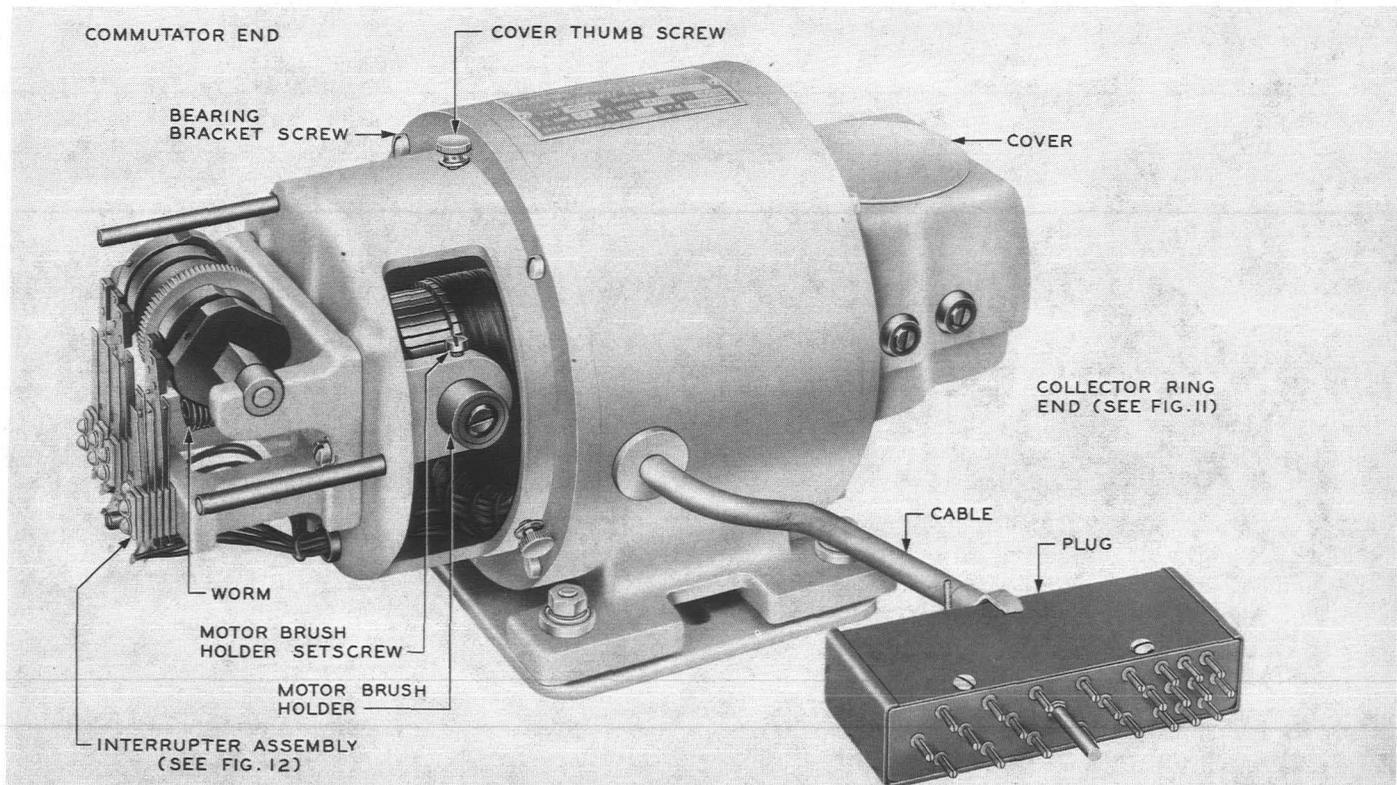
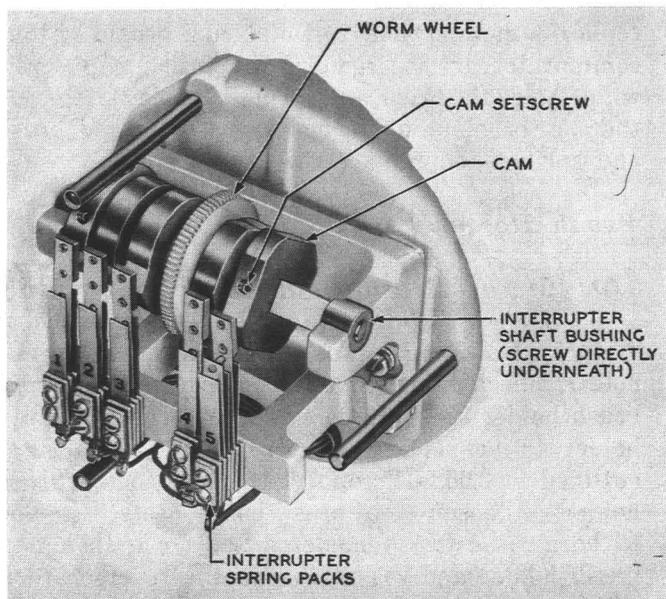

Fig. 10—Assembly (Electric Specialty Co KS-5319-04)
Fig. 12—Interrupter End (Electric Specialty Co. KS-5319-04)
(4) For the KS-5319-04 Electric Specialty Co. machine (see Fig. 10), it will be necessary to first loosen the screws located directly under each interrupter shaft bushing (see Fig. 12). In some cases, it will be necessary to remove the bearing cap screws and bearing caps. This will permit the complete interrupter shaft assembly to be lifted out. A pencil line drawn across all the cams before disassembly will help in reassembly. Any replacements of worm wheel or cams to be made should then follow the procedures given in 3.09(2) and (3) after removing the interrupter shaft bushing. The bushing is of the oilless metal type and should be handled carefully. All cams should be remounted so that the mold marks (three round indentations) on the cams are to the right when facing the interrupter spring packs and with interrupter spring pack number one to the left. The worm wheel mounting hub should be to the left. The cam lobes should be in the same relative position to each other as they were before removal.